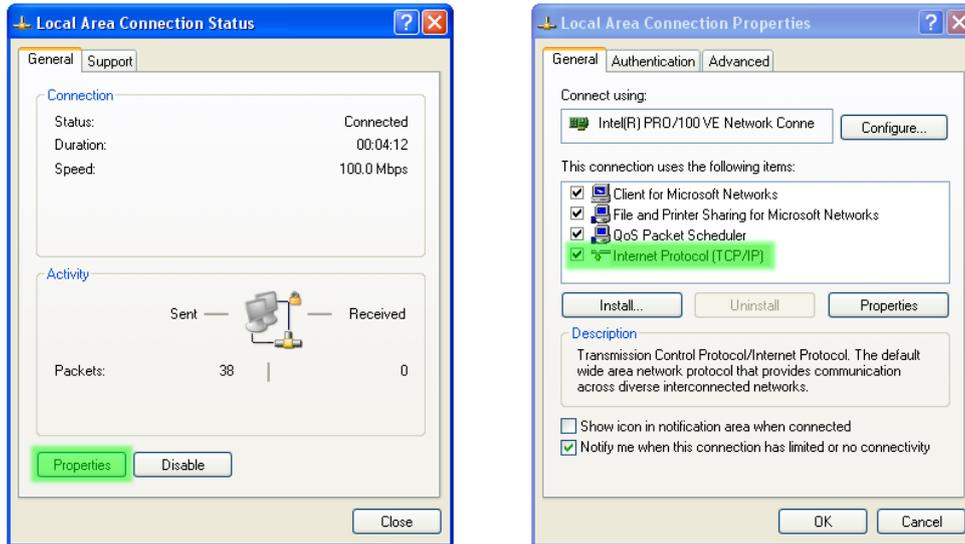

Figure 22: Local Area Connection Status and Properties dialog boxes.
4. The *Local Area Connection Status* dialog box will be displayed, as shown on the left of Figure 22, click the *Properties* button.
5. The *Local Area Connection Properties* dialog box, as shown on the right of Figure 22, will be displayed. Click on *Internet Protocol (TCP/IP)* to highlight it and then click the *Properties* button.